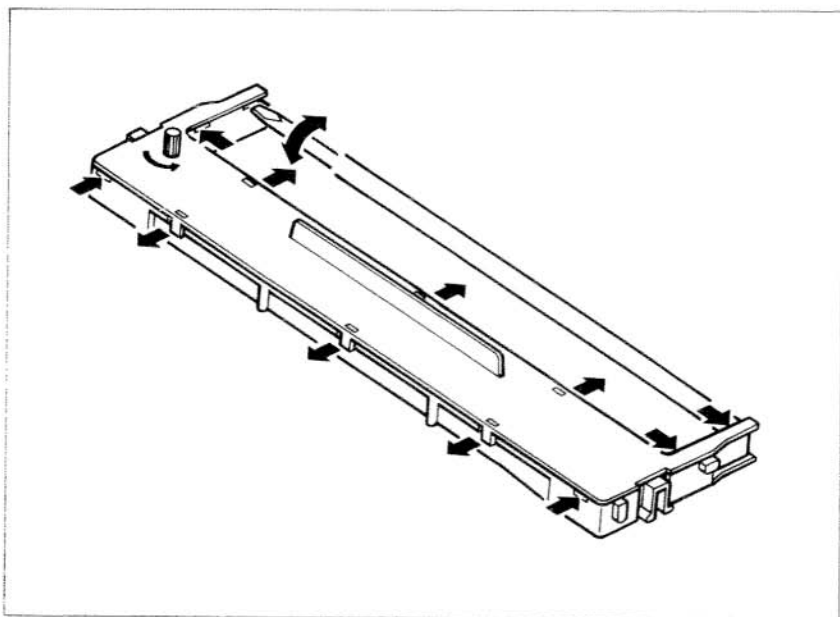

Figure 8-1. Use a screwdriver to pry open the cartridge.
3. Unhook the six tabs of the cartridge cover carefully (Figure 8-1).
- Using a screwdriver with a thin blade, pry open the cartridge cover. Figure 8-1 shows the numerous slots for inserting a screwdriver.